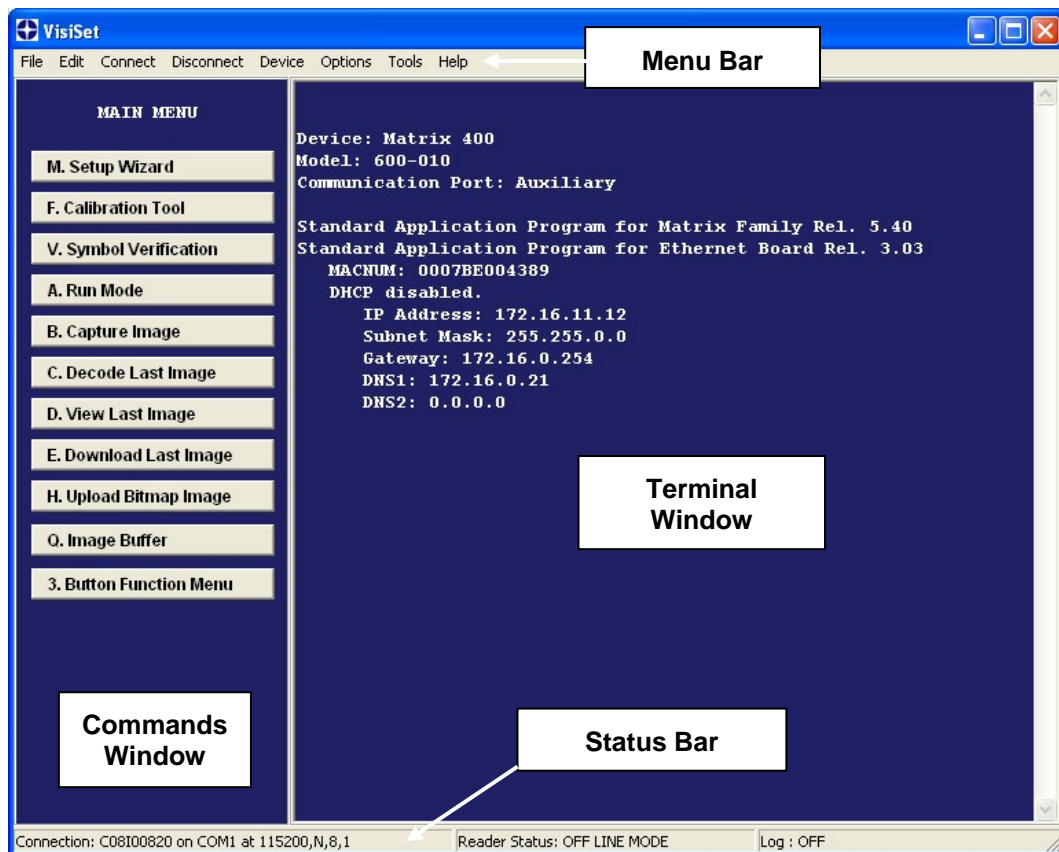

Figure 118 - Main Window
Upon connection, Matrix 410™ exits Run Mode and displays the Main Menu on VisiSet™ with all the commands necessary to monitor your reader's performance. You can select these commands using the mouse or by pressing the key corresponding to the letter shown on the button. See Figure 118.
The **Options** item from the VisiSet™ menu (see Figure 118) presents a window allowing you to configure:
6. Close the Parameter Setup window and press **Disconnect** on the VisiSet™ menu bar (see Figure 118) or launch **Run** Mode from the VisiSet™ Main menu.